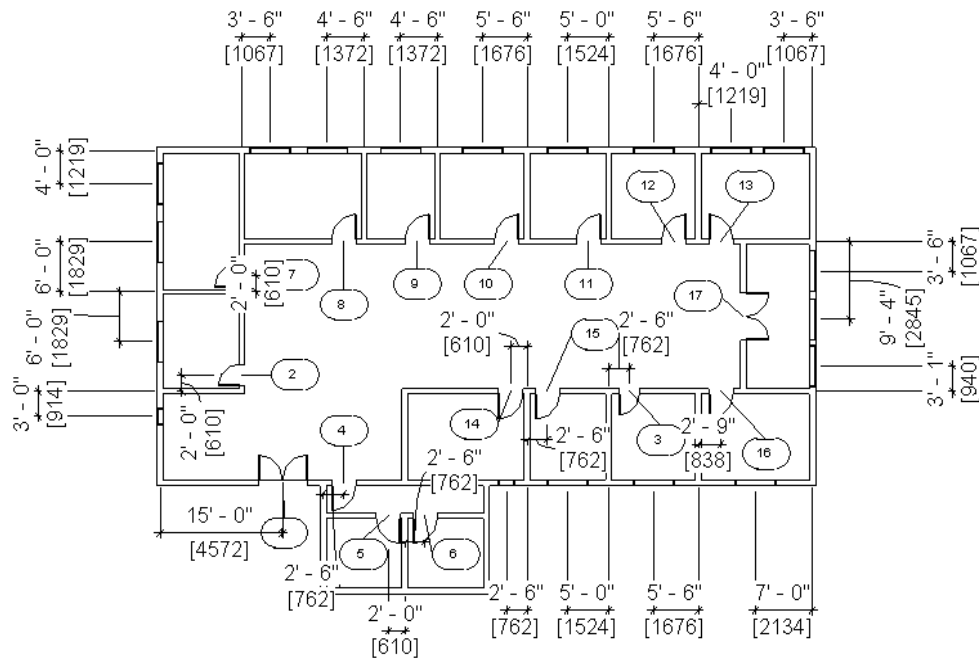
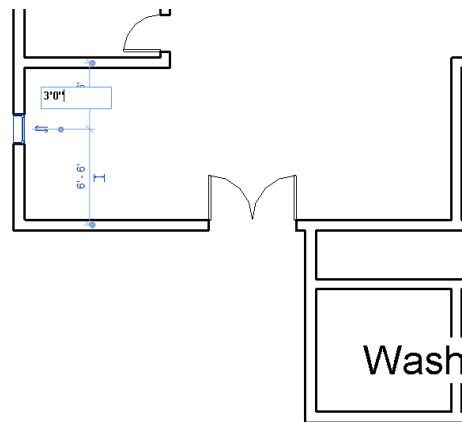

Figure 3-77 Sketch for adding doors and windows to the Office Building project
Figure 3-83 Specifying the exact location of the window
In this tutorial, you will add doors and windows and also add a floor and a ceiling to the *c03_Building-EnvelopeI_tut1.rvt* project file for Imperial or *M_c03_Building-EnvelopeI_tut1.rvt* project file for Metric created in Tutorial 1 of Chapter 3. Refer to Figure 3-77 for adding these elements. The dimensions and the text have been given for reference and are not to be added. The project file name and parameters to be used are given next.
- e. Place the windows, as shown in Figure 3-77.
13. Add the other types of door in other areas at a specified distance from the internal wall, refer to Figure 3-77.
6. Click on the upper temporary dimension and enter **3'0"** for Imperial or **900 mm** for Metric, as shown in Figure 3-83. Press ENTER; the window is moved to the specified location. Similarly, add another windows of the same type near the internal wall of the IT Server room by invoking the **Window** tool from the **Build** panel refer to Figure 3-77.